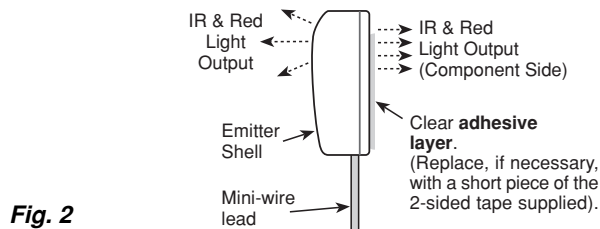

Fig. 2
- Each emitter has a clear adhesive layer on the bottom flat surface of the shell. The rounded side faces the user and emits visible red light when a command is sent (Fig. 2).